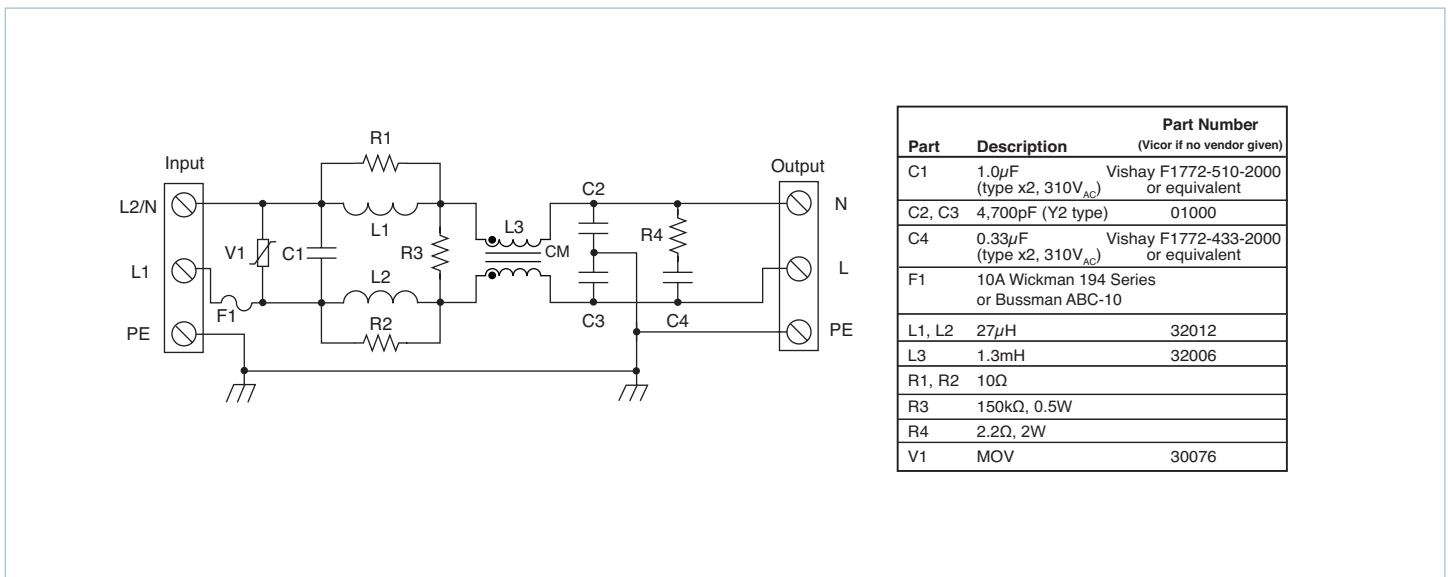
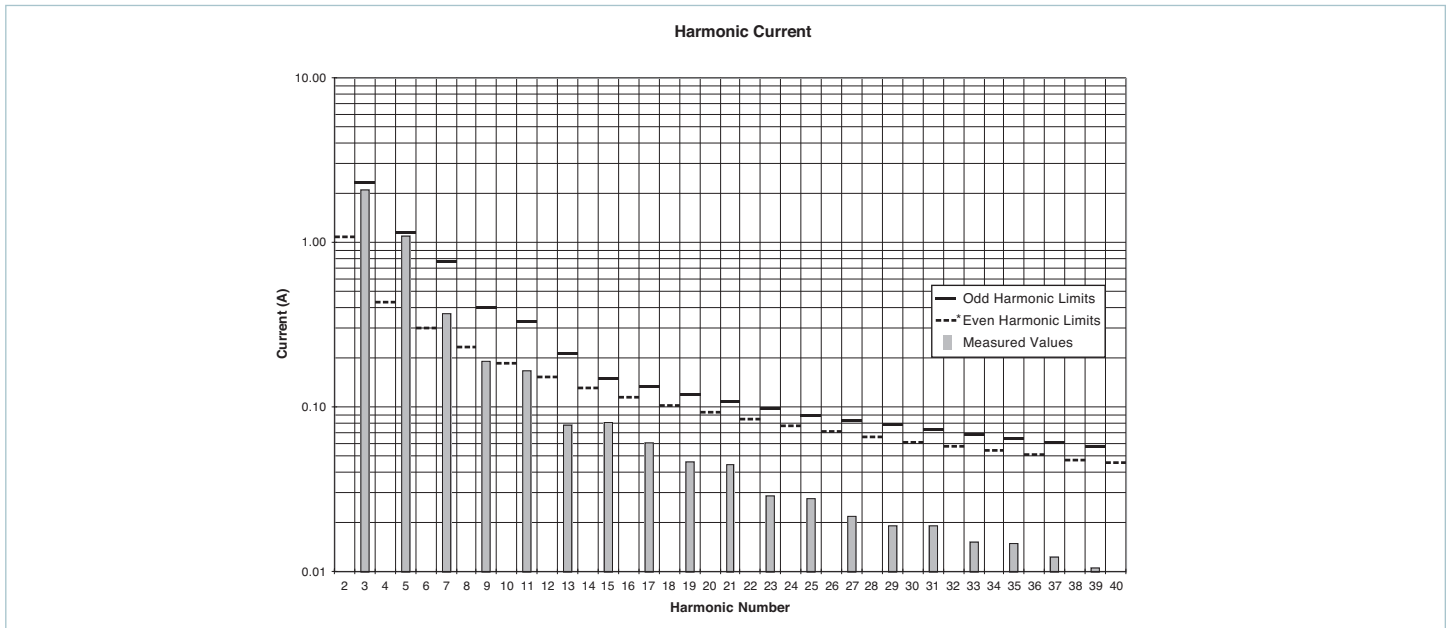
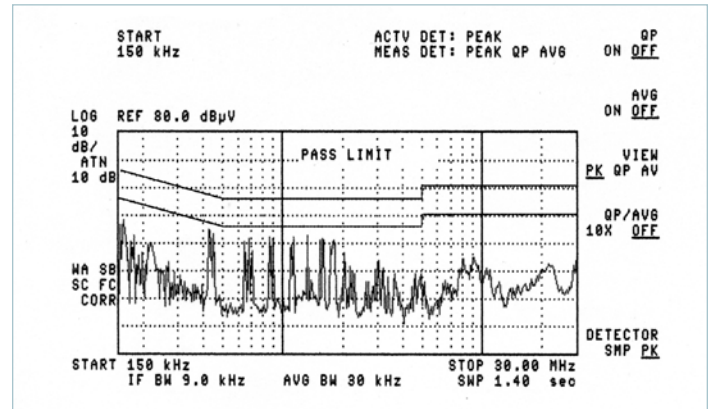

Figure 9.1b — Input EMI filter for EN55022, Class B compliance
Figure 9.2 — Measured harmonic current at 230VAC 575W vs. EN spec limits (\*Measured values of even harmonics are below 0.01A)
Figure 9.10a — Peak detection
The ENMod system provides transient / surge immunity, harmonic current attenuation (Figure 9.2) and EMI filtering, in addition to all of the power switching and control circuitry necessary for autoranging rectification, inrush current limiting and overvoltage protection. Converter enable and status functions for orderly power up / down control or sequencing are also provided. To complete the AC front-end configuration, the user only needs to add hold-up capacitors, EMI filter (Figure 9.1b), and a few discrete components.
**Filter:** (Figure 9.1b) The input EMI filter consists of differential and common-mode chokes, Y-capacitors (line-ground) and X-capacitors (line-line). This filter configuration provides sufficient common-mode and differential-mode insertion loss in the frequency range between 100kHz and 30MHz to comply with the Class B conducted emissions limit, as illustrated in Figures 9.10a – 9.10c.